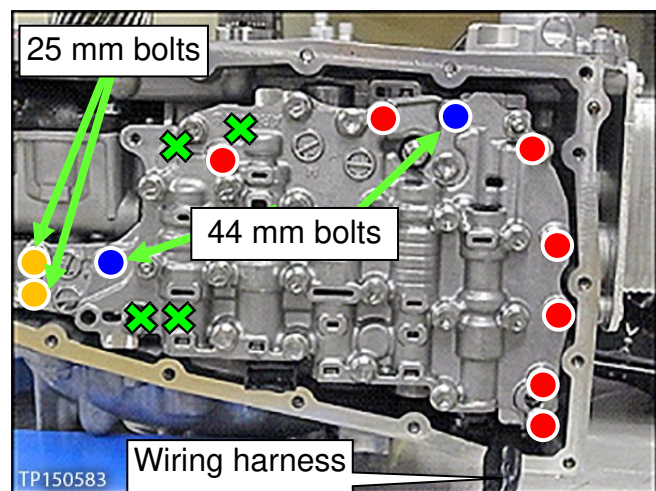

Figure 20
3. Install the Control Valve with nine (9) mounting bolts (Figure 20).